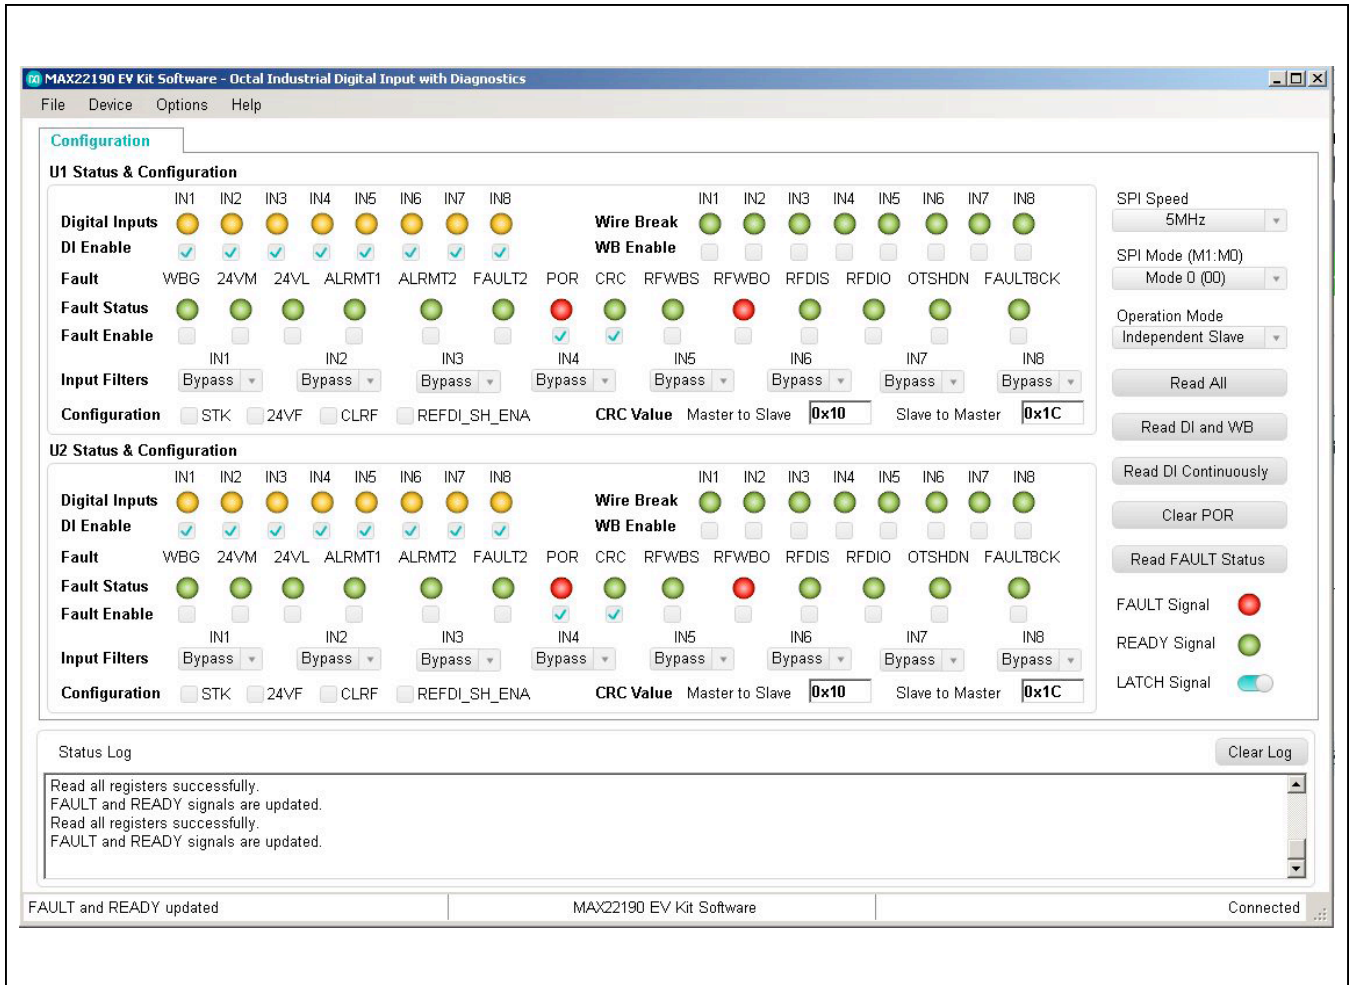
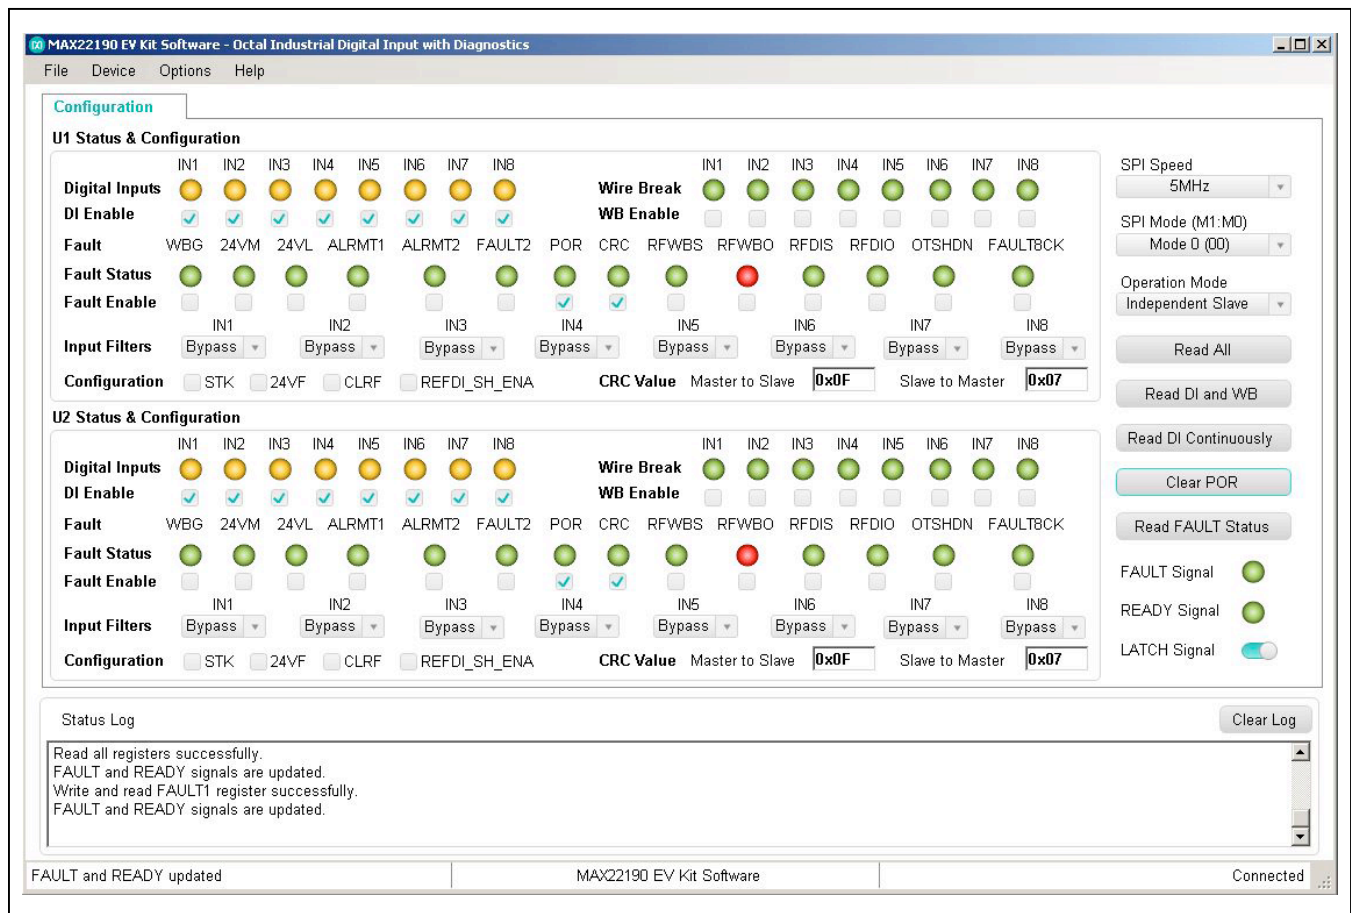

Figure 2. MAX22190 EV Kit Software Startup Window
Figure 3. MAX22190 EV Kit Software—Clear POR
- 11) Once the hardware is ready to use, launch the EV kit software by opening its icon in the **Start | Programs** menu. During the EV kit software launch, two message boxes are shown to indicate the default operation mode (Independent Slave mode), and U1 and U2 SPI mode (Mode 0). Click **OK** to close the message boxes. The EV kit software appears as shown in Figure 2.
- 13) Click **Clear POR** button. Observe that **POR** status lights for U1 and U2 are changed to green, and **FAULT Signal** status light is also changed to green in the **Configuration** tab as shown in Figure 3.
When the MAX22190 EV kit software starts, it automatically detects if the EV kit is connected to a PC and indicates it in the status bar at the bottom edge of the GUI. If the software does not recognize the USB2PMB2# adapter board, make sure that the software and all drivers are properly installed, check the USB connection, and go to the **Device** menu and select **Search for Hardware** option. When the EV kit is properly connected, the MAX22190 devices (U1 and U2) are read and all controls are updated (see Figure 2).
After power up, the MAX22190  $\overline{\text{FAULT}}$  pin is low and the POR bit in the FAULT1 register is set, indicating that a power-on-reset has happened and all registers are set to default (Figure 2). After clicking the **Clear POR** button, the GUI clears the POR bit in the FAULT1 register. The FAULT pin is pulled high and FAULTB1 or FAULTB2 LEDs are turned off after clearing the POR (Figure 3).